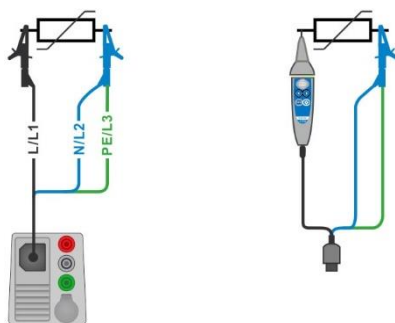
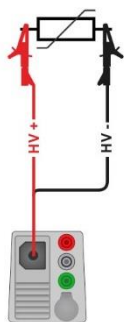

Figure 7.18: Connection of 3-wire test lead and Tip commander (Range: 1000 V)
Figure 7.19: Connection of 2.5 kV test lead (Range: 2500 V)
- ▶ Connect test leads to object under test (see **Figure 7.18** and **Figure 7.19**).